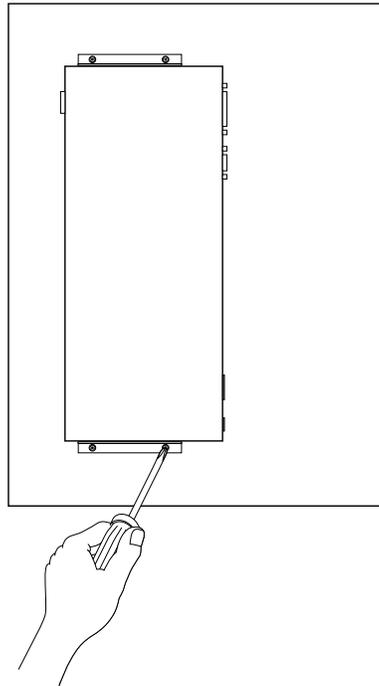

Figure 2-11. Securing Concentrator to the Wall
- 3. Holding the concentrator against the wood, align the bracket holes with the pilot holes in the plywood (see Figure 2-11). Insert and tighten the sheet metal screws.**